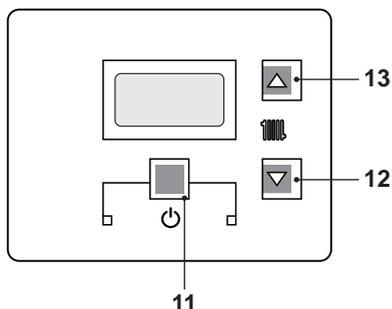
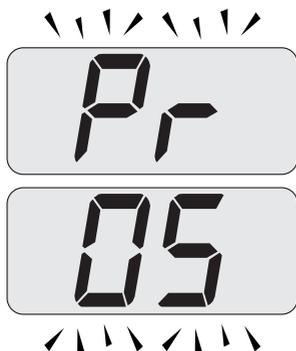

Fig. 8.3
Fig. 8.5
- Enter in "programming mode" by pressing keys 11 - 12 - 13 (Fig. 8.3) for 10 seconds at the same time until the letters Pr that alternate with code 01 are displayed on the LCD display, indicating that "parameter 01"(Fig. 8.4) has been activated.
- Press keys 11 and 13 (Fig. 8.3) at the same time until the value of parameter 05(00=G20) is displayed on the LCD display (Fig. 8.6).
- Scroll the various parameters using keys 12 or 13 until the letters **Pr** that alternate with code **05** are displayed on the LCD display, indicating that "parameter 05"(Fig. 8.5) has been activated.
- By pressing key 13 three times, it is possible to change the value of parameter 05 from **00**=G20 to **05**=G31, which is ok for LPG gas.
- By pressing key 11 (Fig. 8.3) confirmation of the inserted value is obtained.
- Press keys 11 and 12 (Fig. 8.3) at the same time to exit without changing the value (return to the parameters list Fig. 8.5)
- Press keys 11 - 12 - 13 (Fig. 8.3) at the same time for 10 seconds to exit the "programming mode".